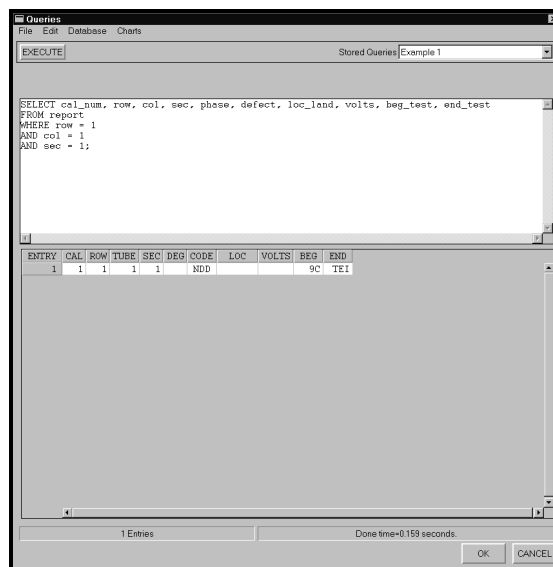
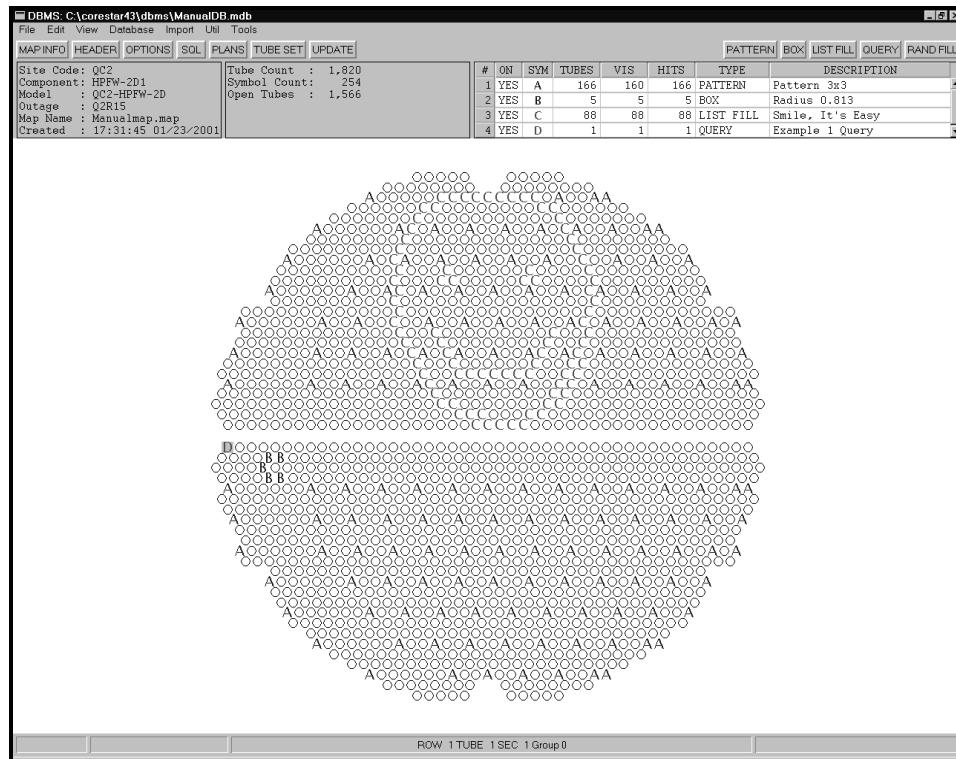

Figure 3-120. Queries Window With Restored Query
Figure 3-121. Map With Pattern, Box, List and Query Fills
- Stored Queries Menu lists the queries stored in the database using Database > Store Query or Database > Store Query As explained above. As seen in Figure 3-120, choosing the query name in the pull-down menu will cause the query to appear in the SQL Area. If edits are done to the query and you wish to save it under the same name, use Database > Store Query. If you wish to store it under a distinct name, use Database > Store Query As. See Database > Store Query for an explanation of *stored* vs. *saved* queries.
Using the query from Figure 3-120 the Query Fill can be seen added to our map in Figure 3-121.